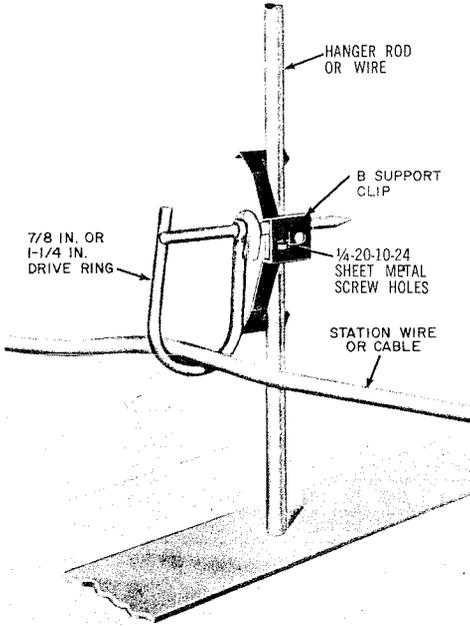

Fig. 4 — B Support Clip
3.05 The B Support Clip (Fig. 4): provides a means of attaching Drive Rings to hanger rods and wires used in false ceiling construction or to the flanges of structural steel framework. It replaces the B Beam Clip.